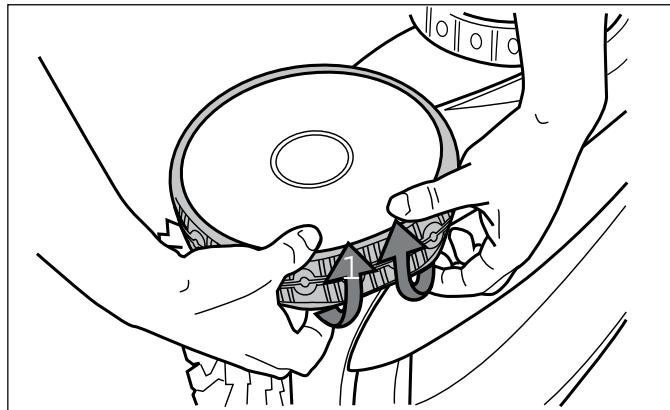

Figure 35. Pull the Old Tire Over the Wheel
1. Pull on the inside of the old tire to remove the tirelip from the wheel (Figure 35).